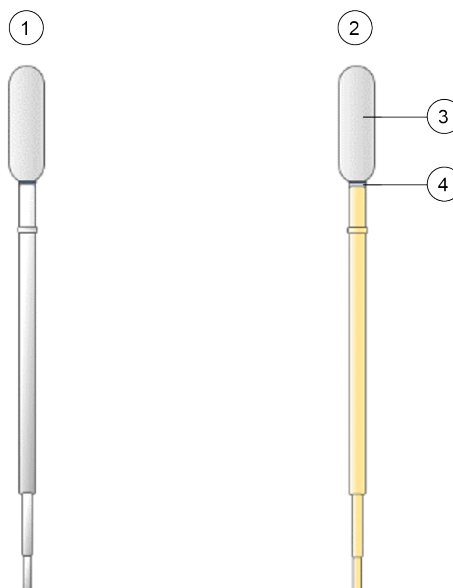
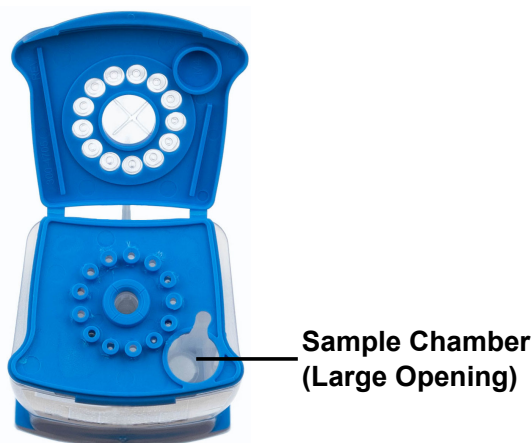

Figure 1. Transfer Pipette
Figure 2. Cartridge (Top View)
- If using the *transfer pipette* included in the kit (Figure 1), fill the pipette to just below the bulb to transfer at least 1 mL plasma from the tube (Figure 1). Make sure no large air bubbles are created in the pipette tip while filling the pipette. Empty the contents of the pipette into the sample chamber of the cartridge (Figure 2).
- If using a *precision pipette*, pre-wet the pipette tip once, by filling the pipette tip with plasma and emptying it into the tube. Then, using the pre-wet pipette tip, fill the pipette with at least 1 mL plasma from the tube. Empty the contents of the pipette into the sample chamber of the cartridge (Figure 2).